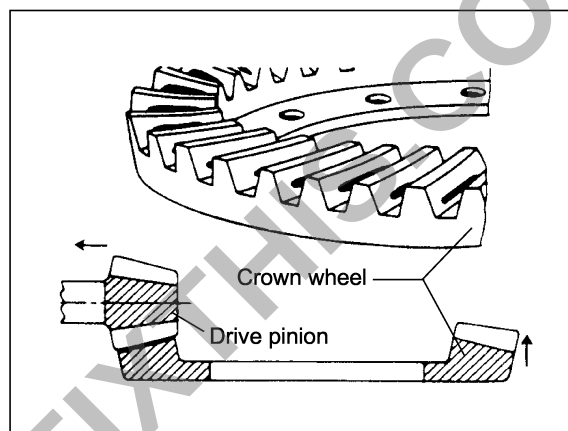

Fig. 2-372
- e. Adjusting contact condition at flank (Fig. 2-372).